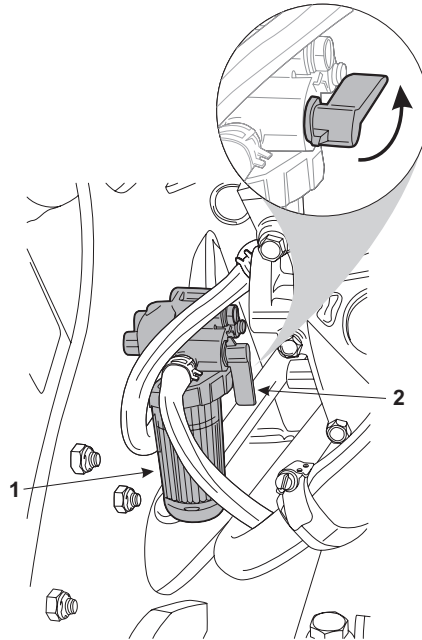

Figure 3-6 Engine Fuel Filter/Water Separator
6. Check the fuel filter/water separator to make sure that there is no water in the filter bowl (Item 1, **Figure 3-6**).
1. Rotate the fuel shut off valve (Item 2, **Figure 3-6**) to **stop** the fuel flow from the tank.
3. Rotate the filter bowl (Item 1, **Figure 3-6**) and remove it from the filter assembly.